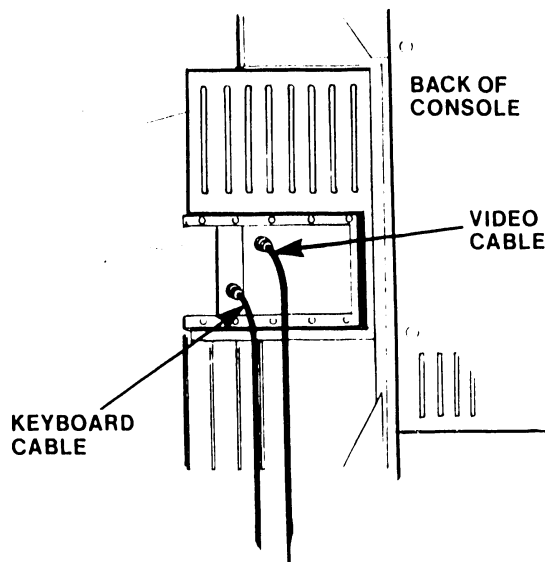

FIGURE 5-35
1. Remove both the video and keyboard cables from the back of the console. (see Figure 5-35).